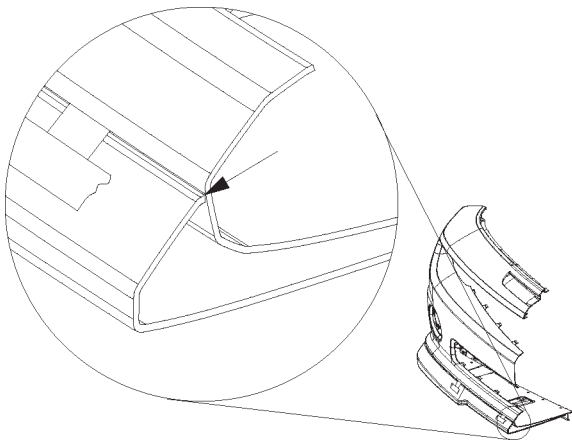

FIGURE 36
13. Align top of cladding to bottom of radius in center of vehicle. Refer to figure 36.